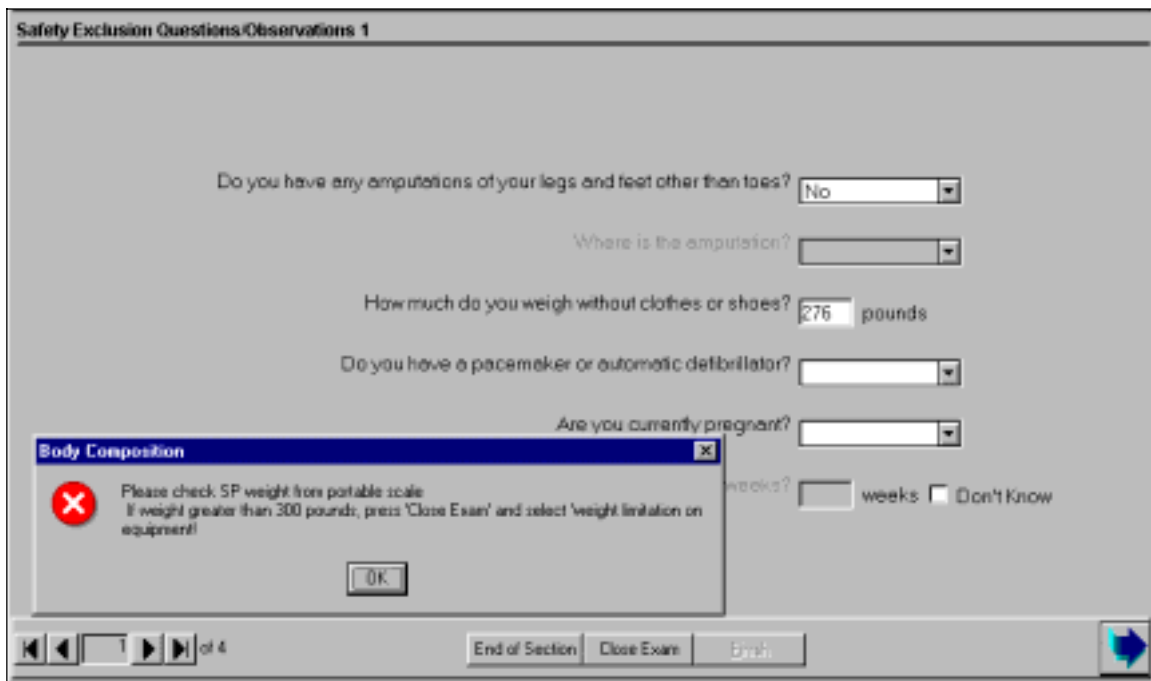

Figure 4-5. Shared exclusion questions (weight 1)
- If the answer to the question on self-reported weight is between 275 and 300 pounds, the system will display a message: ‘Please check SP weight on portable scale. If weight greater than 300 pounds, press ‘Close Exam’ and select ‘weight limitation on equipment’.’ See Figure 4-5.